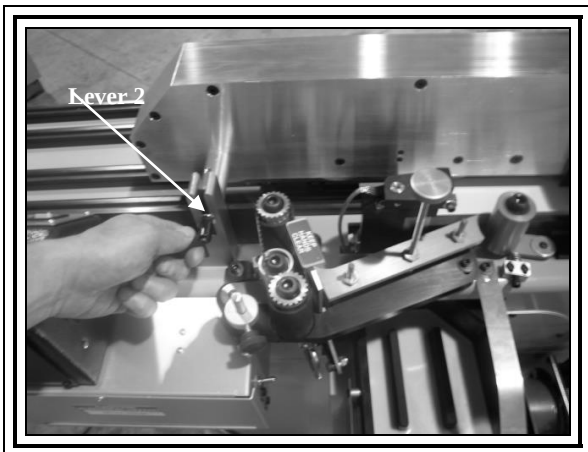

FIGURE 7
9. Raise Power Feeder and remove Power Feeder Support Board by rotating locking levers, shown in (**FIGURES 7 & 8**), counter-clockwise and turning the crank handle counter-clockwise.
A) Take a sample of panel to be banded and lay it on the tabletop slides parallel to the front of the power feeder. B) Lower the feeder until the top of the panel is approximately 2MM (3/32”) higher than the bottom of the rubber feed belt or a 3/32” from the bottom of the feeder roller. **NOTE: Be sure to tighten both feeder-locking screws before operating and loosen both before adjusting height or the level of the feeder may be disturbed and re-levelling will be necessary.(Reference Fig.7 & 8)**
To swing the power feeder away for cleaning or making adjustments, loosen the rear locking lever then completely remove the front locking lever 2 (Reference Fig. 7 & 8). Raise the feeder using the crank handle to its full height and swing towards the outfeed end of the machine. **NOTE: The dust collection hose must be removed first as well as unplugging the power feeder supply cable. FAILURE TO UNPLUG THE FEEDER CABLE MAY RESULT IN DAMAGE TO THE CABLE AND OTHER ELECTRICAL COMPONENTS.**